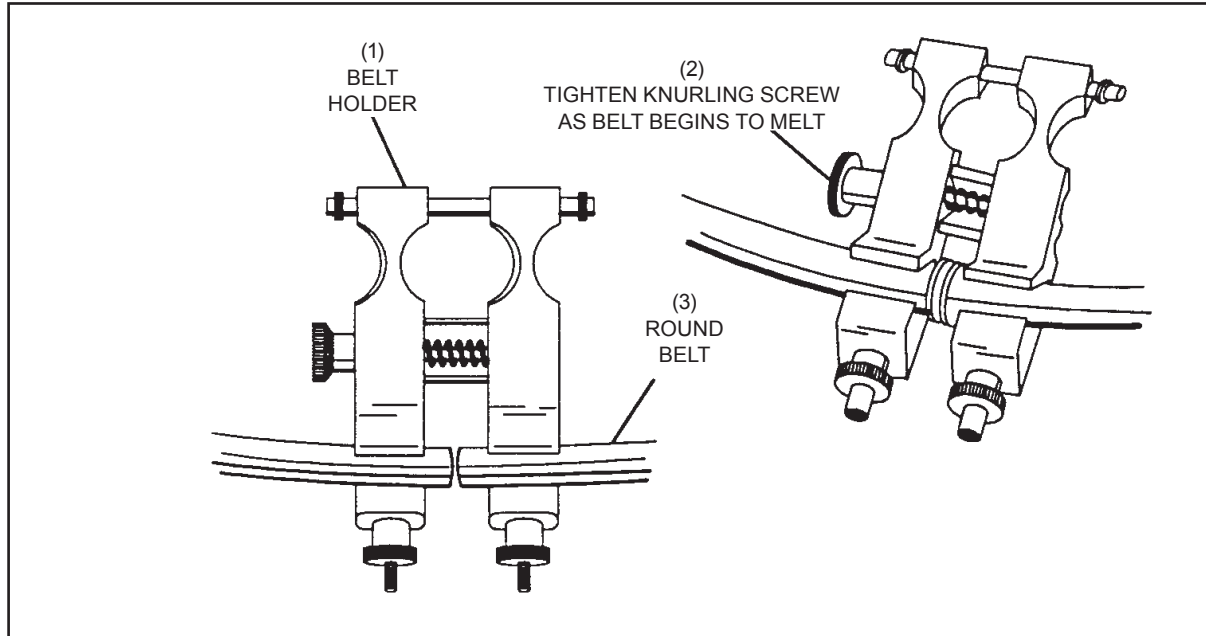

Figure 8-5. Welding Round Belts.
4. Place each belt end in the belt holder so they are slightly apart. Refer to *Figure 8-5*.
6. When a pad of melted polycord has formed, withdraw the soldering iron, and lightly tighten the knurling screws of the holder to bring the ends of the belt together. Refer to *Figure 8-5*.